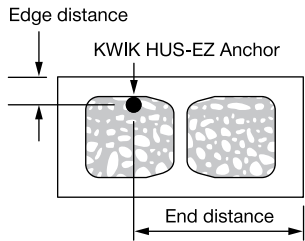
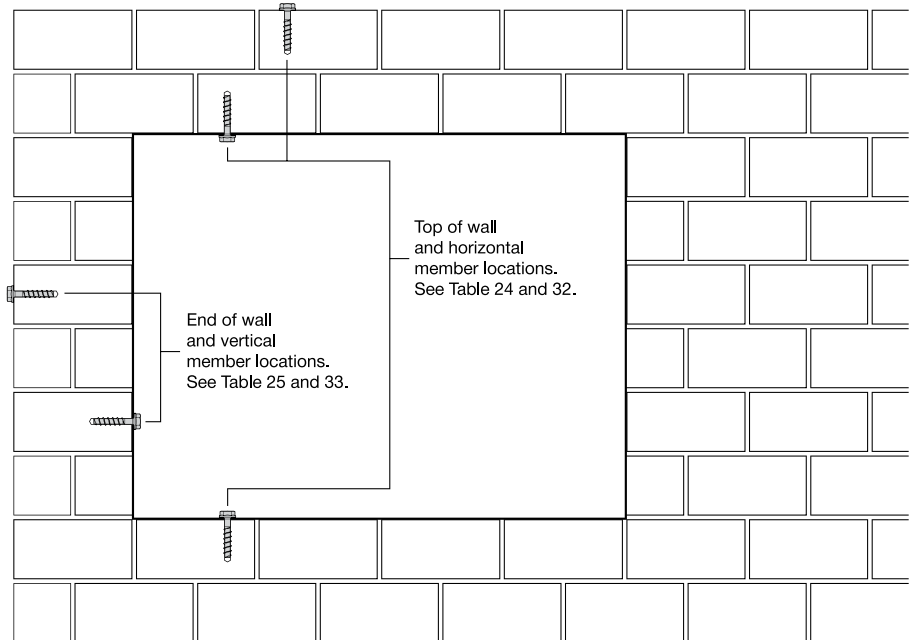

Figure 6 – Edge and end distances for the Hilti KWIK HUS-EZ anchor installed in the top of CMU masonry wall construction
Figure 7 – Anchor locations in end of wall or wall opening applications
- 2 See figure 6 and 7 for allowable anchor installation locations on the top of grout-filled concrete masonry walls. Anchors may not be installed within one inch of a vertical joint. See figure 7 for anchor installation locations in end-of-wall and vertical members of wall openings.